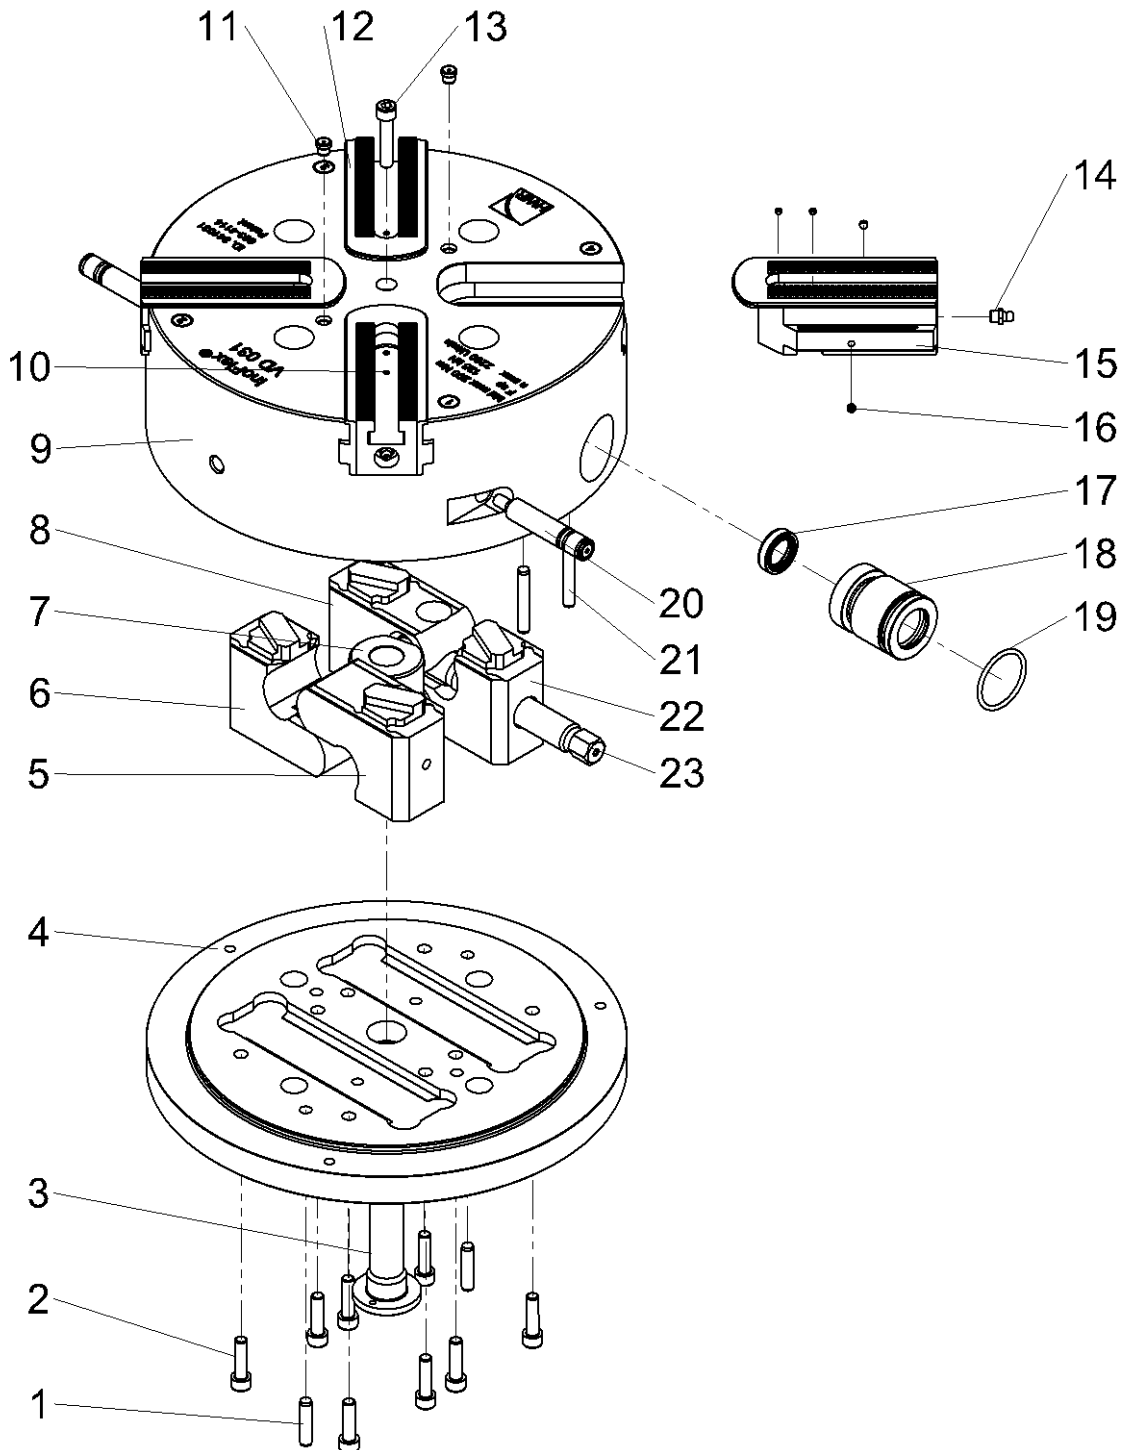

Fig. 8-1: Spare parts (VD016 - VD040)
- Step 1** Look for the desired part in figure 8-1 / 8-2 / 8-3 / 8-4 / 8-5.
**Step 1** Look for the desired part in figure 8-1 / 8-2 / 8-3 / 8-4 / 8-5.